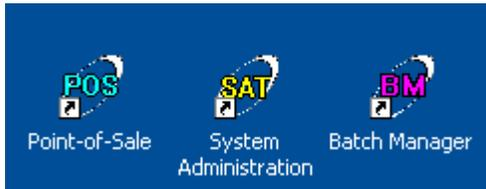

Figure 2.10
24. Upon a successful installation, three shortcut icons to the POS program (POS – Point-of-Sale, SAT– System Administration, and BM - Batch Manager) appear on the PC desktop (Figure 2.10). The version number can be verified by signing on to the SAT, POS, or Batch Manager and clicking **'Help'**, **'About PCC OTC'** from the menu at the top of the screen. The Security Administrator needs to sign on to the SAT as the 'admin' user and create user accounts. For complete information, refer to the *System Administration Tool* chapter, 'User Administration' section of this User Manual.